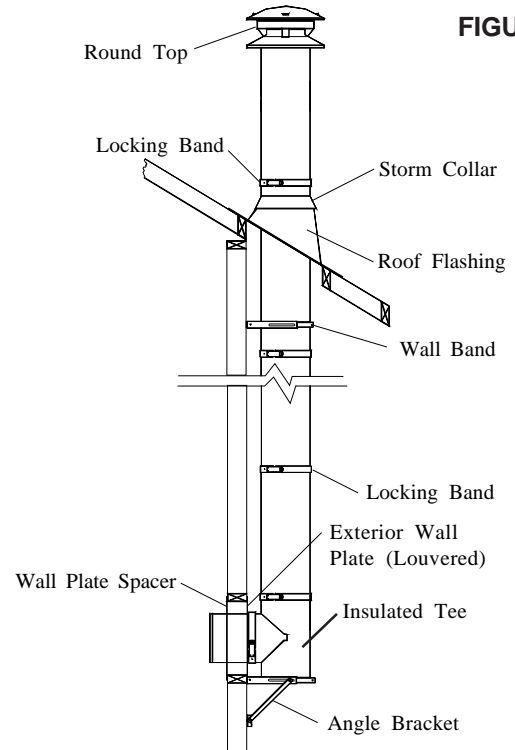

FIGURE 19
2. Assemble braces, brackets and angles to the base plate using 1/4" nuts and bolts, with braces up or down as necessary (**DOWN IF CHIMNEY GOES THROUGH WALL**) as per Figure 19 & 20a and if it is an interior wall support installation (Figure 20b).